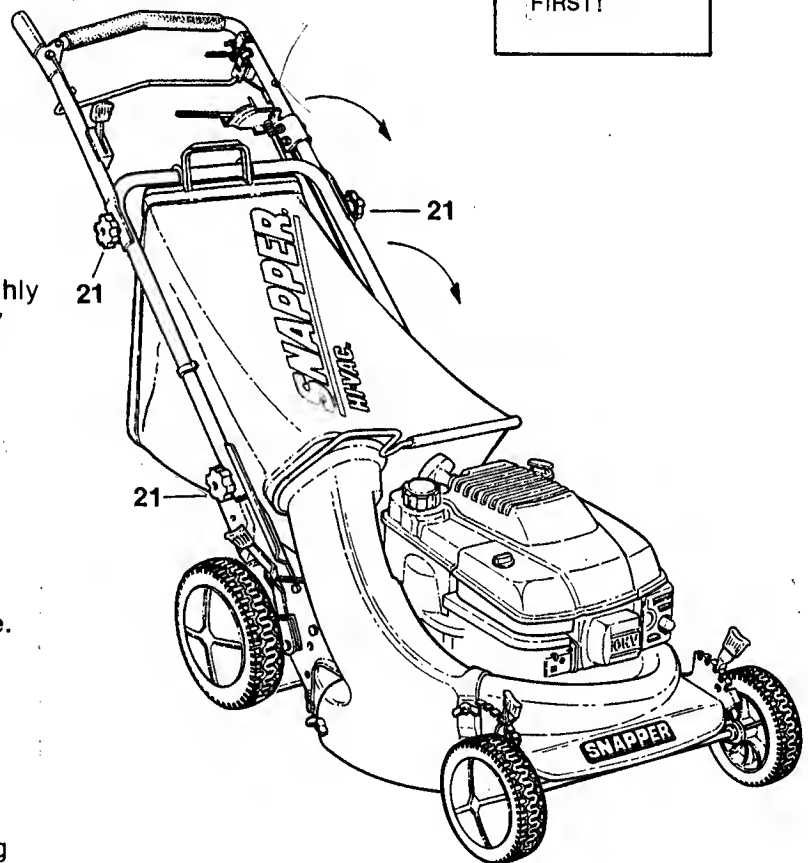

FIG. 19 -HANDLE STORAGE
7. Handles may be tilted forward for storage by loosening knobs (21). Remove the grass bag and adaptor and then loosen knobs (21). Carefully tilt the handles forward, flexing control cables so they are not damaged. (Refer to FIG. 19).